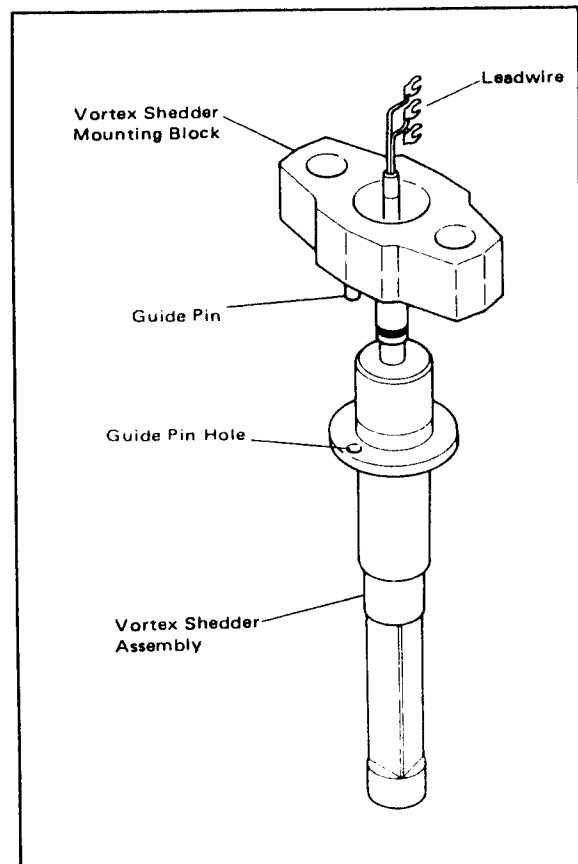

Figure 6-11. Vortex Shedder Assembly Positioning.
- (1) Remove the converter cover.
- (2) Loosen the two terminal screws and disconnect leadwires.
- (3) Loosen the bracket mounting bolts and remove the terminal box together with the bracket. Be careful not to damage the leadwires connected to the vortex shedder assembly when removing the terminal box.
- (4) Loosen the vortex shedder assembly mounting bolts or nuts and remove the vortex shedder assembly.
- (5) When reassembling the vortex shedder assembly, reverse above procedure. Confirm the following.
- b. The guide pin on the vortex shedder mounting block meets the guide pin hole. See Figure 6-11. The guide pin applies to the 1 to 4 inch flowmeters.